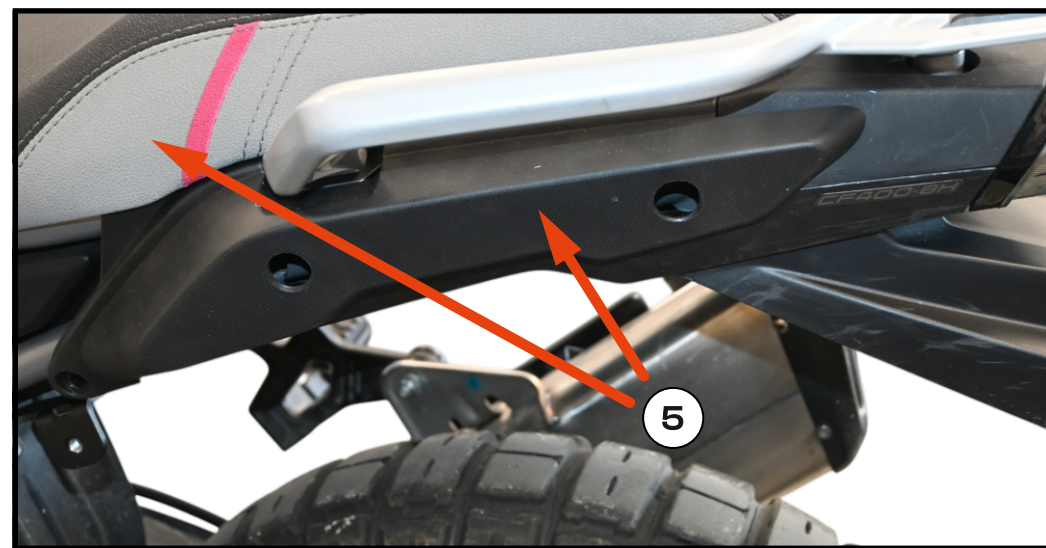

Fig. 7
5. Install and tighten the drilled plastic covers, then install the seat. **[Fig. 7]**